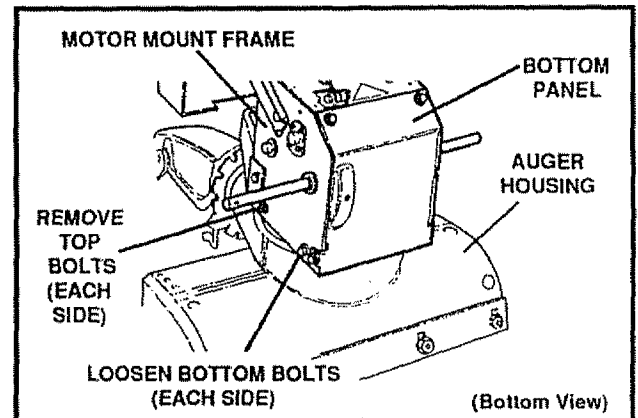
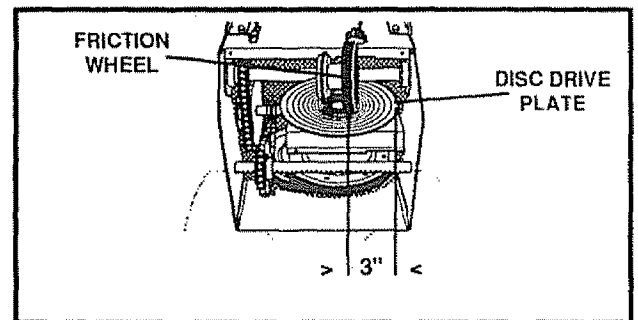

FIG. 30
FIG. 31A
- Remove top two bolts securing auger housing to motor mount frame. Loosen bottom two bolts. (See Fig. 30, page 22).
- Remove the bottom panel (See Fig. 30).
- Position the shifter lever in first (1) gear.
- Note the position of the friction wheel on the disc drive plate. The right outer side of the disc drive plate should be 3" from the center of the friction wheel (See Fig. 31A).
- Move friction wheel to proper position as indicated in previous step (Fig. 31A).
- Remove the bottom panel (See Fig. 30, page 22).